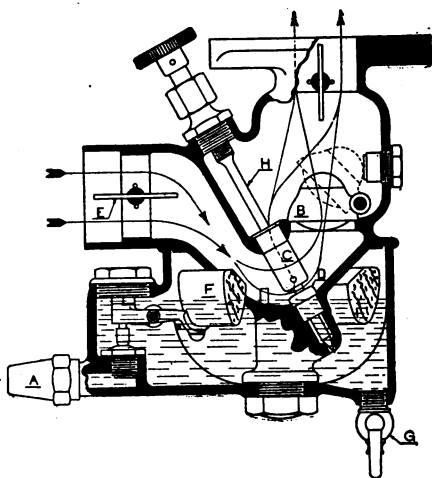

Fig. 97. Section of Kingston Model "L" Carburetor
**Kingston Model "L."** The last Kingston model shown, that of Fig. 97, is very similar to the Ford model, except that it is formed with a vertical outlet, and the air valve *B* added in the vaporizing chamber so formed. This is hinged at the side so as to be swung upward by the suction of the motor, thus uncovering a larger and larger orifice. It is weighted and acts automatically. It will be noted also that the shape of the nozzle has been altered slightly, that on the Ford model being perfectly straight. Near its lower end, it passes through the low-speed tube *C*, which has a series of holes around the bottom and an annular space around the body of the needle. Through this space the fuel and a very little air are drawn for starting, as, at that low suction, the valve *B* would be entirely seated.